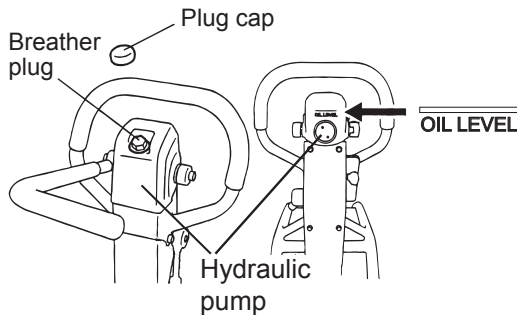

Figure 25. Removing Plug/Breather Cap
1. With the handle in vertical position, remove the plug cap from the hydraulic pump (Figure 25).
8. Pour hydraulic oil (550cc) to the hydraulic pump breather plug attachment hole (Figure 25).